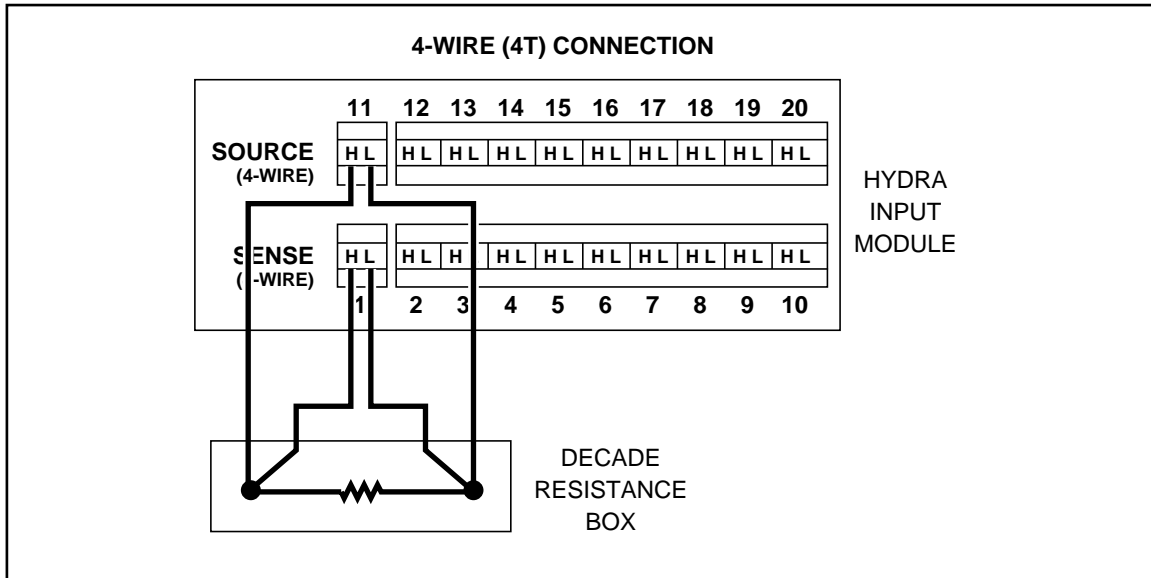

Figure 6-3. 4-Terminal Connections to Decade Resistance Box
3. Connect channel 1's test leads to the Output HI and LO terminals of the Decade Resistance Source. For 4-terminal performance testing, also connect channel 11's test leads to the Output HI and LO terminals of the Decade Resistance Source. Connect as shown in Figure 6-3.
4-terminal RTD: Connect the RTD's excitation leads (one red and one black wire) to the H (high) and L (low) terminals of channel 1. Connect the RTD's second pair of red and black leads to the H and L leads of channel 11 (refer to Figure 6-3 for proper connection). Install the Input Module back into the instrument.